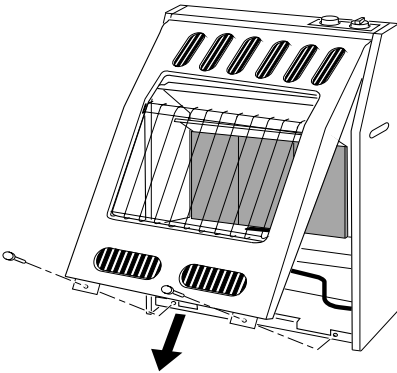

Figure 6 - Removing Front Panel of Heater (Model FAS-3B Shown)
3. Pull bottom of front panel forward, then down (see Figure 6).